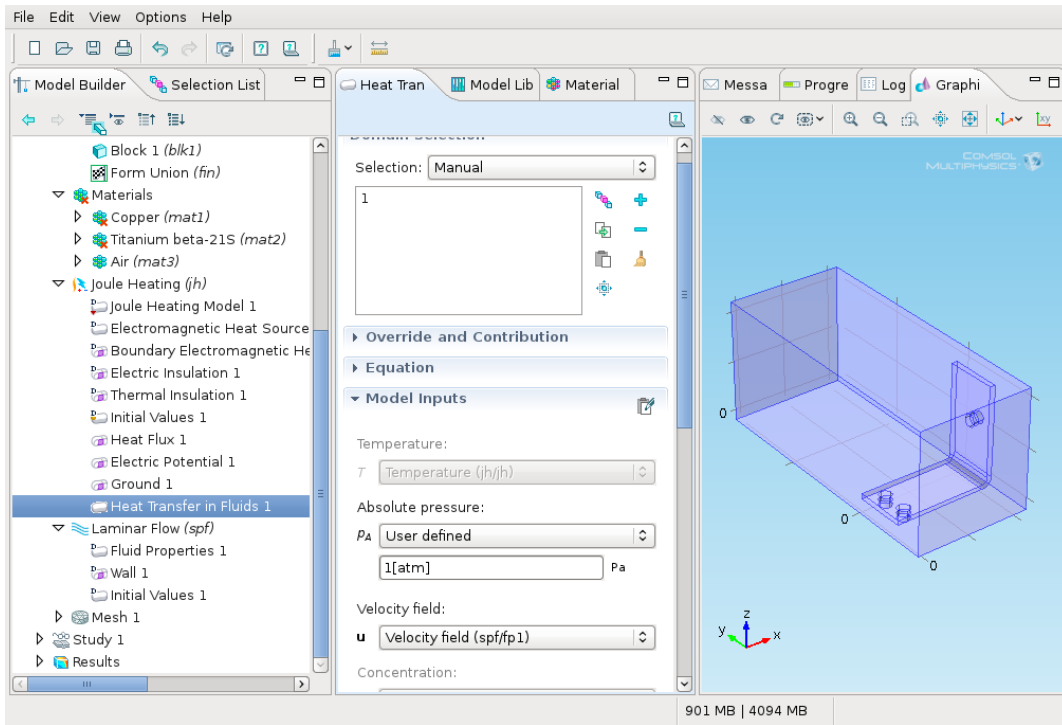

Figure 16: Thermal conductivity in fluids.
*Heat Transfer in Fluids 1* → *Model Inputs* → *Velocity field* → *Velocity field (spffp1)* (from the selection list) (Fig. 16). This couples the flow field of the *Laminar Flow* with thermal conductivity.